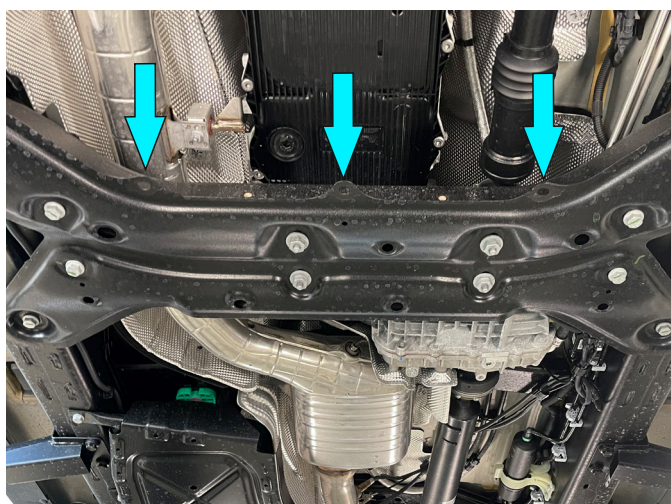

Fig. 7
5. Install insert nuts M10 (item C) into holes as shown in fig.7.